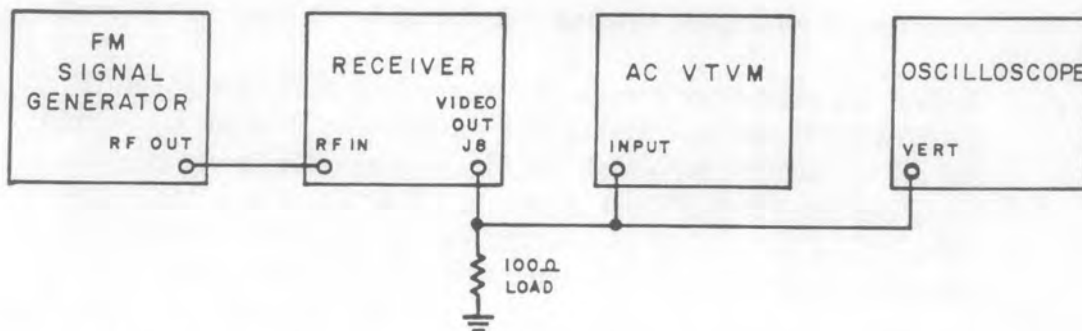

Figure 4-4. Test Setup for FM Video Output Level Performance Tests
- (1) Connect the equipment as shown in Figure 4-4.